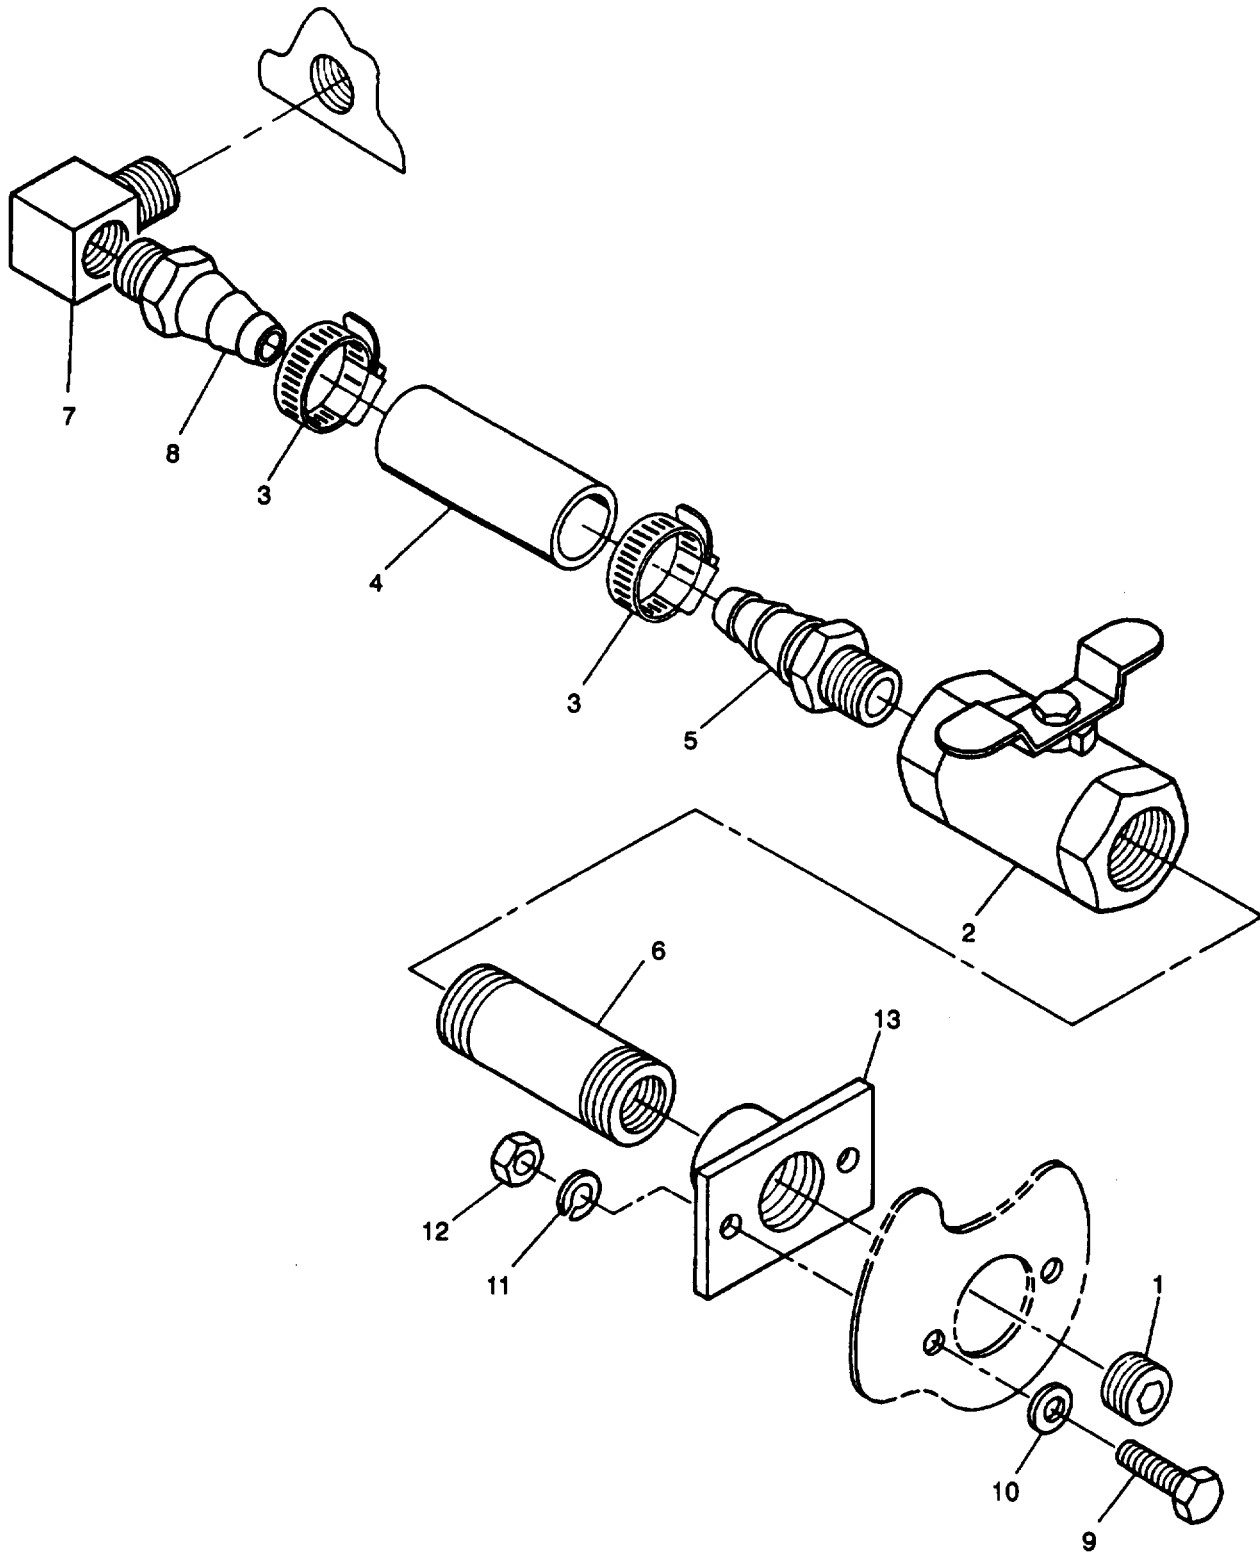

Figure 2-23. Engine Oil Drain Line
- c. Remove plug (1, Figure 2-23), open drain valve (2), and drain engine oil into suitable container.
- d. Remove clamps (3) and drain hose (4).
- e. Remove drain valve (2), fitting (5), and pipe (6) from plate (13).
- f. Remove fitting (5) and pipe (6) from drain valve (2).
- g. Remove elbow (7) and fitting (8) from engine.
- h. Remove fitting (8) from elbow (7).
- i. Remove bolts (9), washers (10), lockwashers (11), nuts (12), and plate (13) from left side engine door sill.
- a. Install plate assembly (13, Figure 2-23) in left side engine door sill with bolts (9), washers (10), lockwashers (11), and nuts (12).
- b. Install fitting (8) in elbow (7).
- c. Install elbow (7) and fitting (8) assembly into engine.
- d. Install pipe (6) and fitting (5) in drain valve (2).
- e. Install drain valve (2), fitting (5), and pipe (6) into plate (13).
- f. Install drain hose (4) with clamps (3).
- g. Close drain valve (2), install plug (1) and add engine oil to proper level. See Table 2-3 for proper lube oil, Check for leaks.